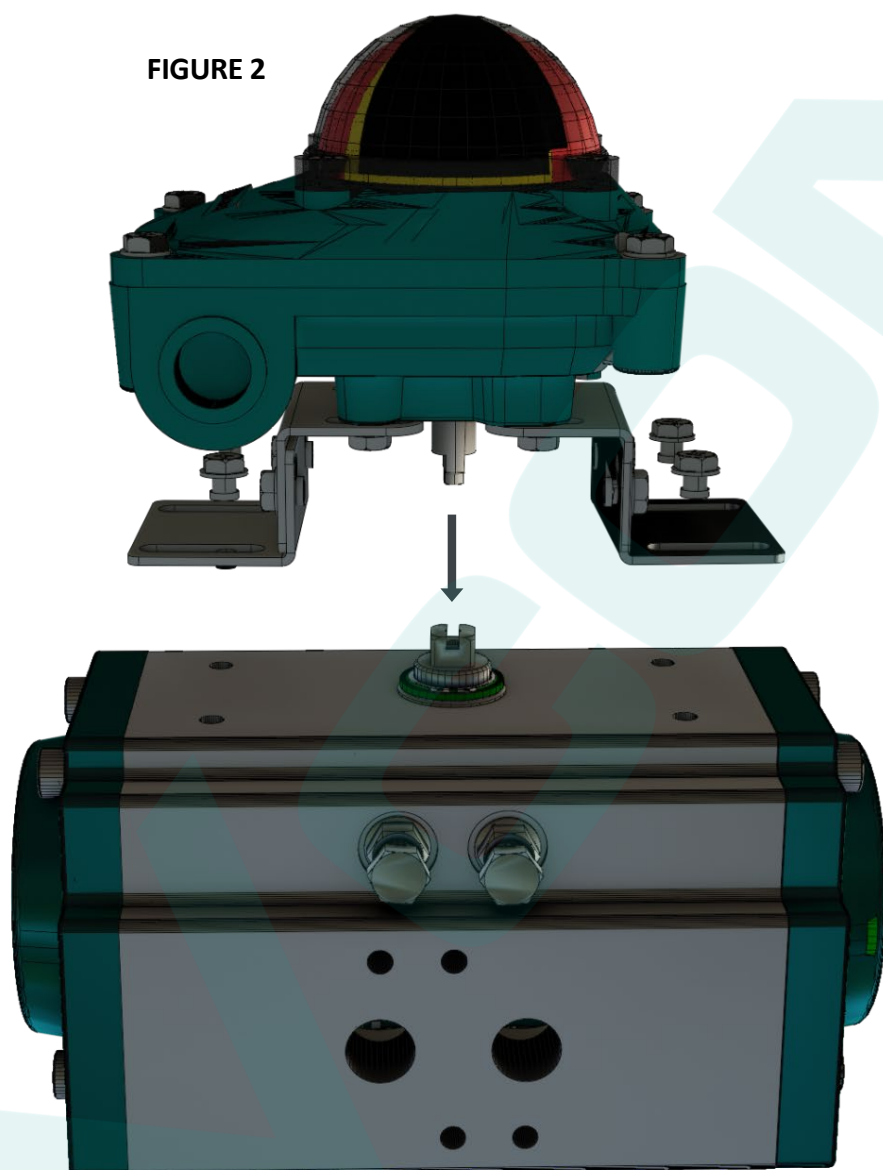

FIGURE 2
3. Attach the switch box to the actuator using the appropriate mounting bracket. (Figure 2)